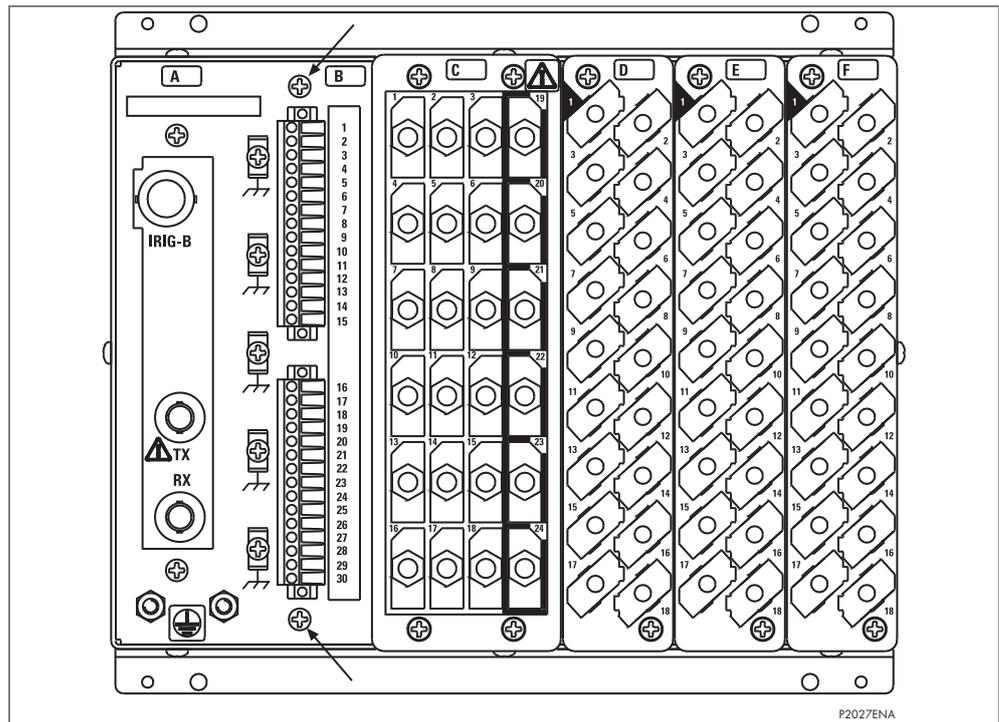

Figure 10 - Location of securing screws for RTD/CLIO input board
1. To replace a faulty RTD input board, first remove the two 15-way terminal blocks, each is fastened to its other half by slotted screws above and below the row of terminals, as shown in Figure 10. Remove these screws carefully as they are not captive in the terminal blocks.
3. The RTD input board is secured in the case by two screws accessible from the rear of the relay, one at the top and another at the bottom, as shown in Figure 10. Remove these screws carefully as they are not captive in the rear panel of the relay.
4. Gently pull the faulty RTD input PCB forward and out of the case. To help identify that the correct board has been removed, Figure 10 shows the PCB layout.